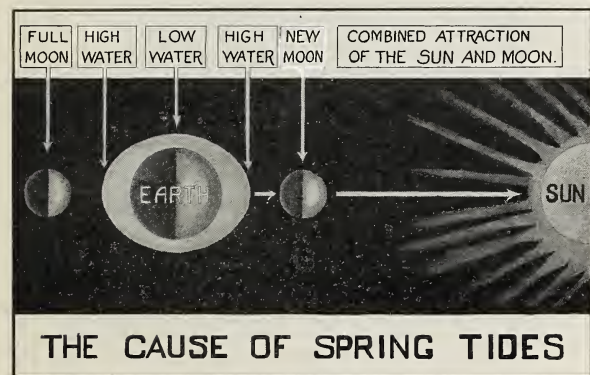
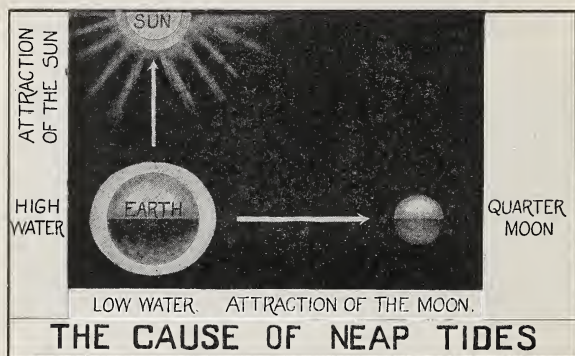

Fig. 156
Fig. 157
*Spring and neap tides*—We said above that both sun and moon took part in producing the tides, though the moon exerts the greater force. It is the interaction of solar and lunar gravitation that produces spring and neap tides. Study Fig. 156, and you will see that at new and full moon the attractions of the sun and moon act together, owing to their relative positions in the heavens, and cause an unusually high tide. On the other hand, when the moon is in its first or last quarter, the solar attraction opposes that of the moon. Hence the tide is low. (See Fig. 157.)